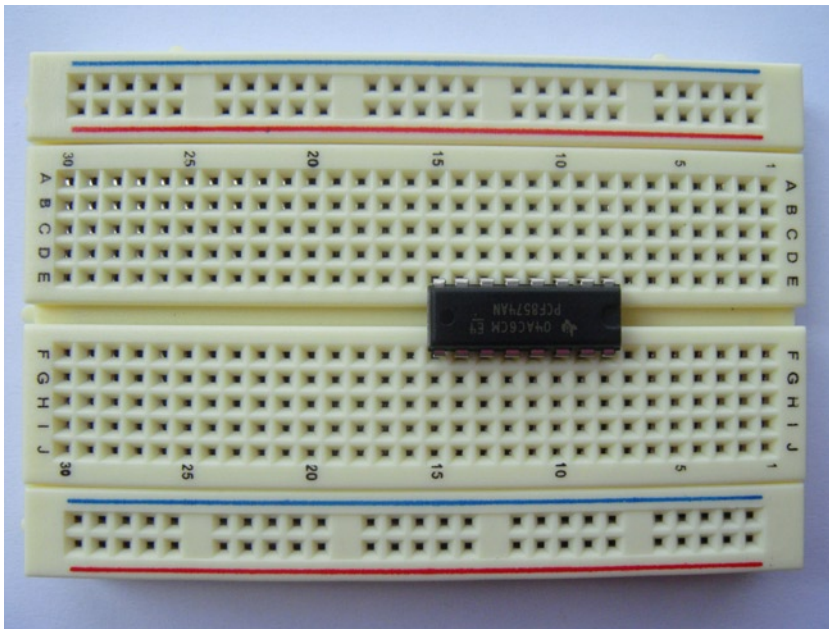

Figure 4-12. Shift register inserted
1. Get your breadboard out and insert the PCF8574AN shift register into the center of the board. You can see this neatly done in Figure 4-12. Remember that the half-moon crescent on the package indicates the top/pin1.